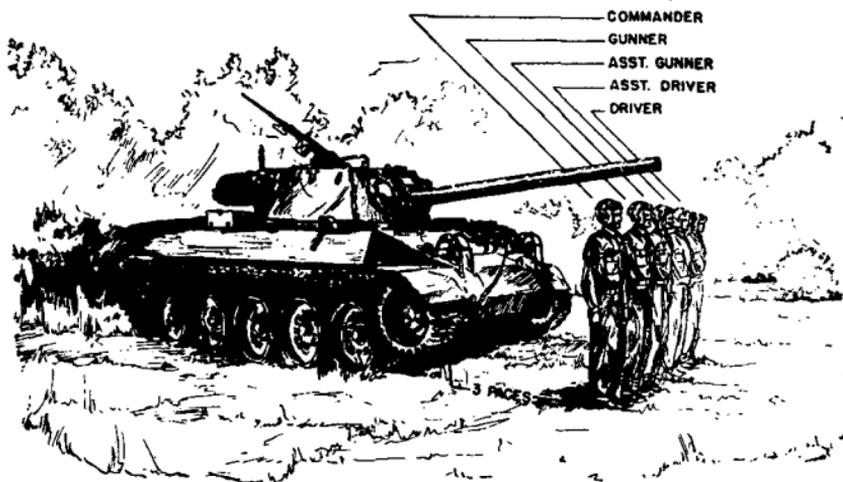

FIGURE 12.—Crew at DISMOUNTED POSTS.
■ 37. **To FORM CREW.**—Command: **DISMOUNTED POSTS.** The crew forms in one rank. (See fig. 12.) The destroyer commander takes post three paces in front or rear of the right track, facing the front, and commands: **IN FRONT (REAR), FALL IN.** The gunner, assistant gunner, assistant driver, and driver, in order, take posts on the left of the destroyer commander at close interval.